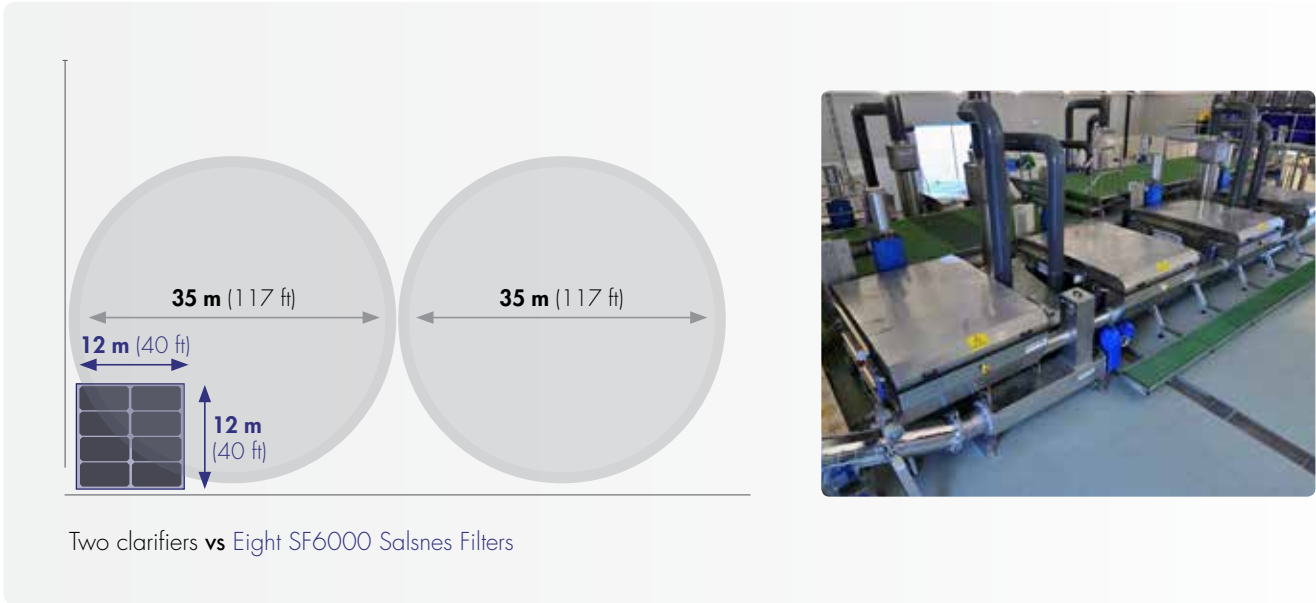

Figure 2. Land Requirements Comparison
- 1/10th the land requirements. See **Figure 2**.